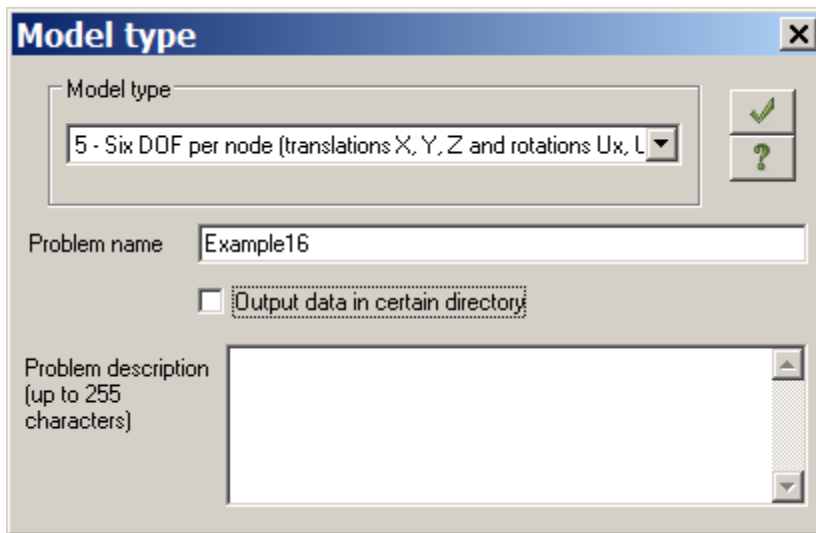

Figure 16.1 **Model type** dialog box
- ⇒ In the **Model type** dialog box (see Fig.16.1) specify the following data: